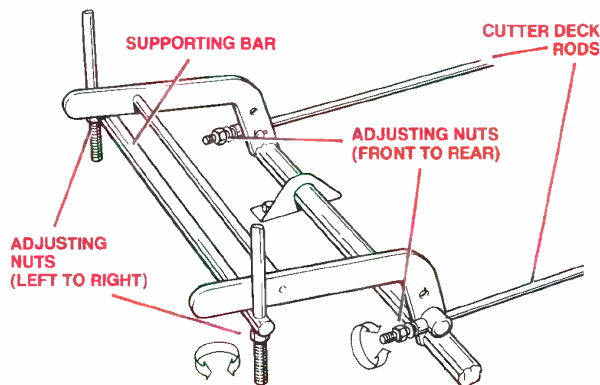

Figure 1. Cutter Deck Levelling Adjustment Points
3. Find the Hanger Bracket assembly where it is attached to the chassis, near the rear of the tractor. (See figure 1).
3. Find the nuts on the ends of the two cutter deck rods. (See figure 1).